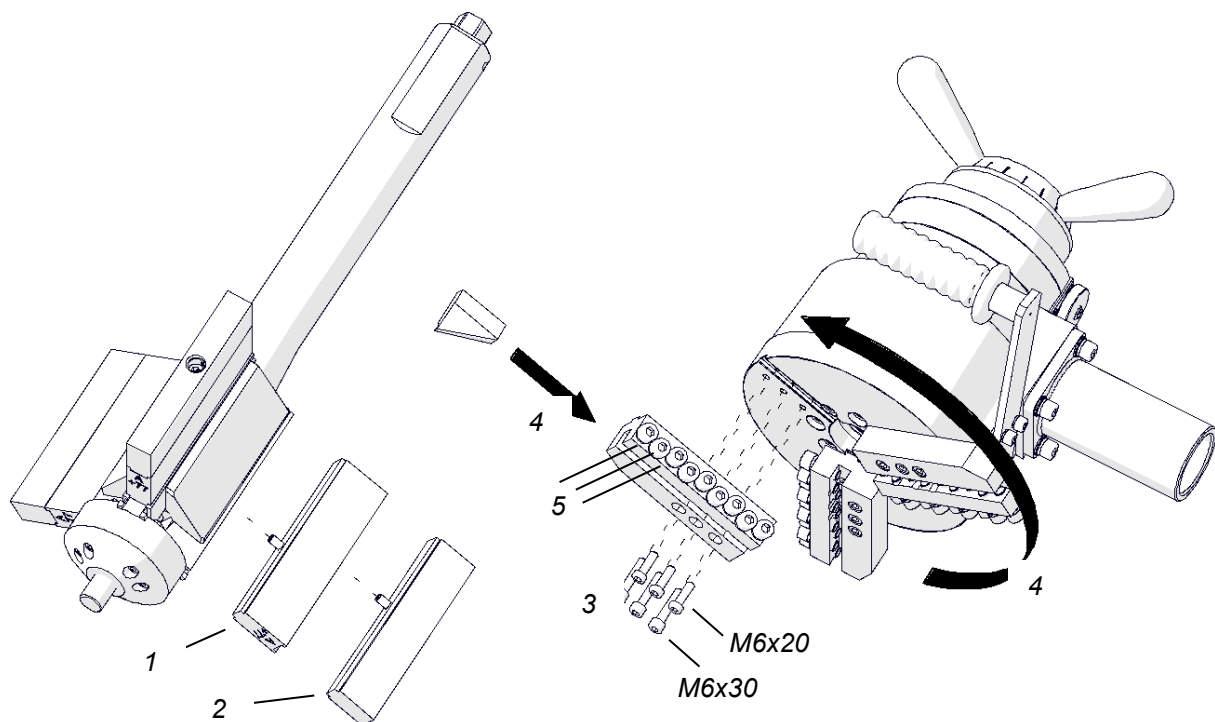
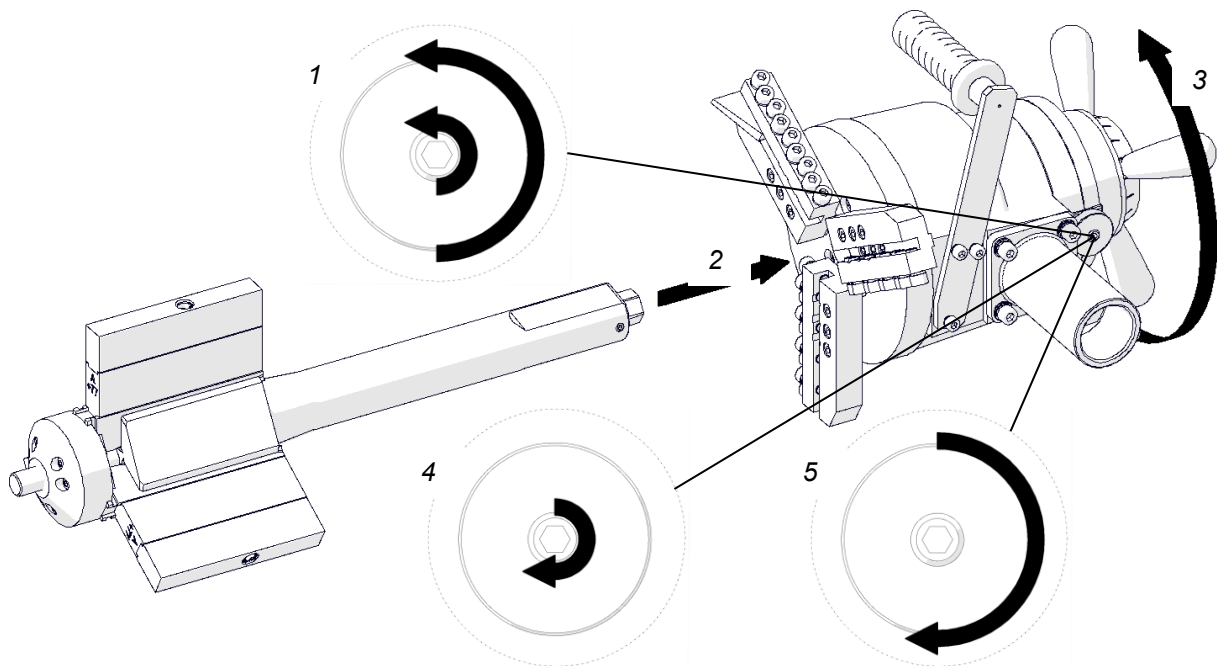

Fig. 2. Installing the jaw blocks, adapters, tool holders, and tool bits
Fig. 3. Installing the mandrel into the machine
Use the 5 mm hex wrench to fix the adapters (1, Fig. 2) and jaw blocks (2) to the expanding mandrel.
Loosen the nut and use the 5 mm hex wrench to loosen the set screw (1, Fig. 3) and insert the mandrel into the machine (2). Make sure that tool bits installed are not in contact with the mandrel. Next, rotate the handles to the right (3) by at least 10 turns until the mandrel engages with the machine fully. Then, tighten the set screw (4) and check whether the handles can be rotated in both directions easily. If the screw is too tight, readjust it. Finally, tighten the lock nut (5).
If the expanding mandrel becomes loose causing vibrations of the tool bits during machining, perform the above actions without removing the mandrel from the machine. To remove the mandrel, loosen the nut and use the 5 mm hex wrench to loosen the set screw (1, Fig. 3) by at least one turn. Then, rotate the handles to the left to remove the mandrel.
Install the mandrel after previously removing the existing expanding mandrel. To do this, loosen the nut and use the 5 mm hex wrench to loosen the set screw (1, Fig. 3) to at least one turn. Then, rotate the handles to the left to remove the mandrel.
Use the following table to select jaw blocks of the small expanding mandrel set suitable to the inner diameter of the pipe to be machined. Next, use the 3 mm hex wrench to tighten them to the small expanding mandrel as shown in Fig. 2, and insert the mandrel into the machine (2, 3, 4, 5, Fig. 3).
Install the set after previously removing the existing tool holders. To do this, use the 5 mm hex wrench to unscrew the screws (3, Fig. 2) and use them to install the tool holders of the extension set.
Use the following table to select jaw blocks of the extension set suitable to the inner diameter of the pipe to be machined. Next, use the 5 mm hex wrench to tighten them to the standard expanding mandrel as shown in Fig. 2. Then, use the 4 mm hex wrench to tighten the tool bits (5, Fig. 2).
Use the following table to select either standard jaw blocks suitable to the inner diameter of the pipe to be machined or jaws blocks of the extension set for flange facing. Then, use the 5 mm hex wrench to tighten them to the large expanding mandrel as shown in Fig. 2, and insert the mandrel into the machine (2, 3, 4, 5, Fig. 3).